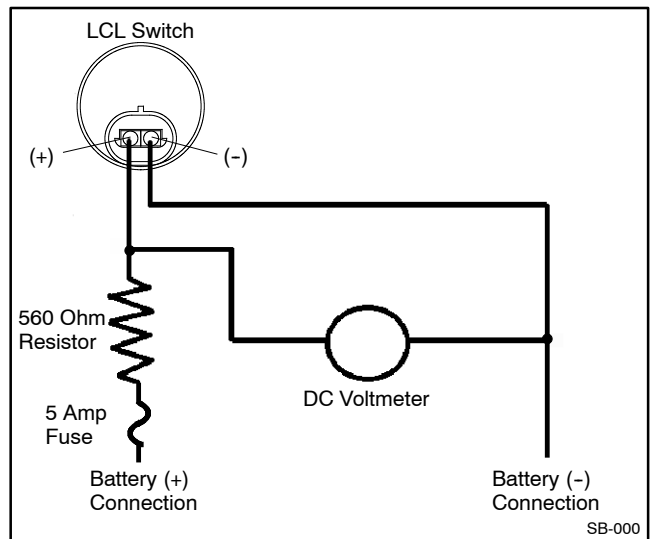

Figure 2 LCL Switch Testing
- 3.1 Setup the test connections as shown in Figure 2 but do not connect the battery (+) connection at this time.